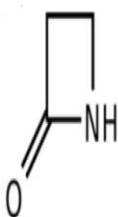

Figure 9 : Beta-lactam core structure.
- This class of molecules contains antibiotics that have a β -lactam ring formed by three carbon atoms and one nitrogen in their molecular structure (figure 9) :